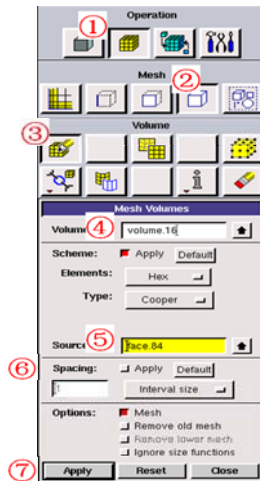

Fig. 40 Mesh the volume just above 'domain small'.
① Click pad 'Mesh'
② Click pad 'Volumes'
③ Mesh volumes
④\* Select the volume just above 'domain small'.
Note: \*④, Depend on the model you have created, it may not be volume.16 as shown in Fig. 40.
\*⑤, It may not be face 84 as shown in Fig. 40.